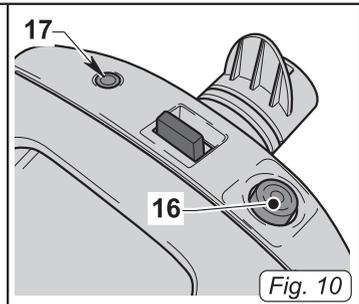

Fig. 10
- Press the switch (16 Fig. 10) to switch off the appliance.
- Press the switch (16 Fig. 10), which lights up, to switch the appliance on.
- When the light (17 Fig. 10) comes on, this indicates that the paper bag is full and must be replaced.